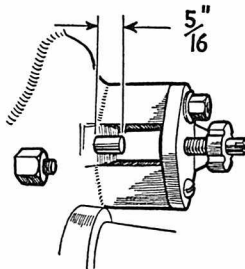
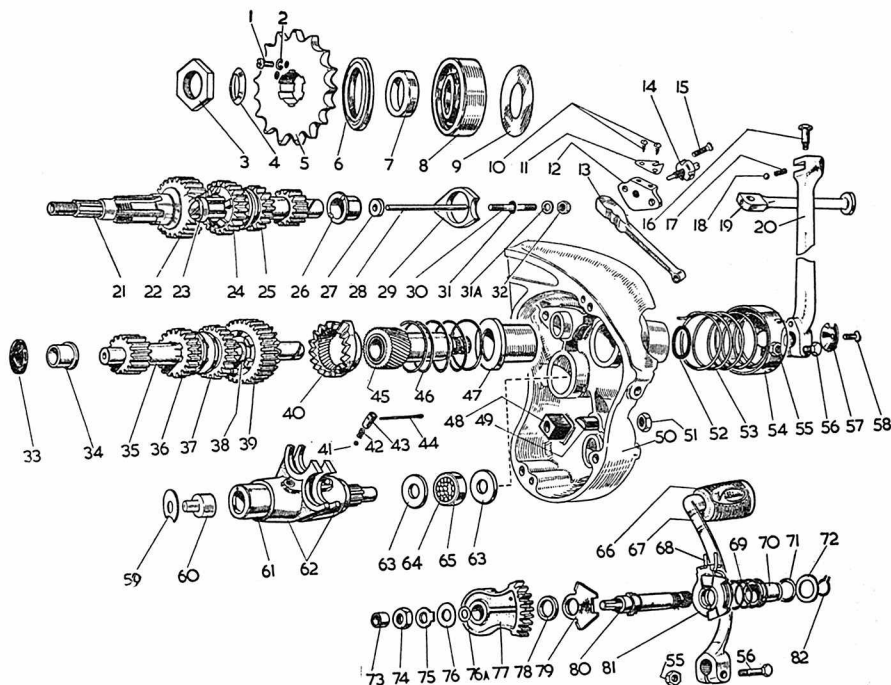
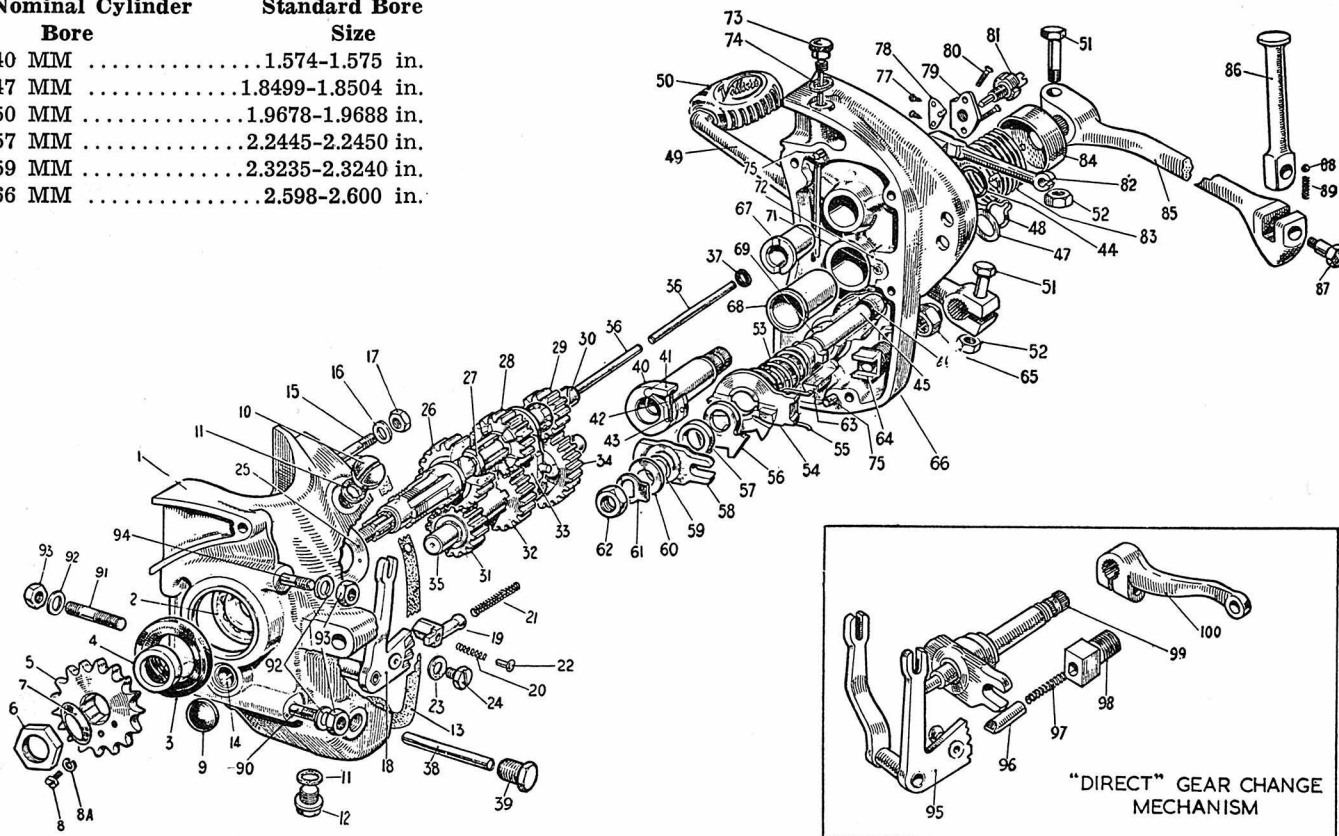

Fig. V21—Clutch push rod protrusion.
Fig. V26—Exploded view typical of four speed transmission used on Mark 2L, 9E, 31C, 31A, 32A, 33A and 34A.
Fig. V27—Exploded view of typical three speed transmission used on Mark 2L, 9E and 31C.
Loosen the clutch control cable to obtain some slack and remove the clutch lever (13—Fig. V26 or 82—Fig. V27). Check clutch push rod protrusion (Fig. V21) which should be 5/16-inch. If protrusion is not correct, turn adjusting screw (2—Fig. V22) as required to obtain correct protrusion and lock by tightening jam nut (1). Reinstall lever (13—Fig. V26 or 82—Fig. V27) making certain 1/8-inch clearance is present between end of push rod (28—Fig. V26 or 36—Fig. V27) and clutch lever. If clearance is incorrect, turn adjusting screw (14—Fig. V26 or 81—Fig. V27). After the preceding adjustments are accomplished, tighten the clutch control cable to provide 1/8 inch free play at B—Fig. V19.